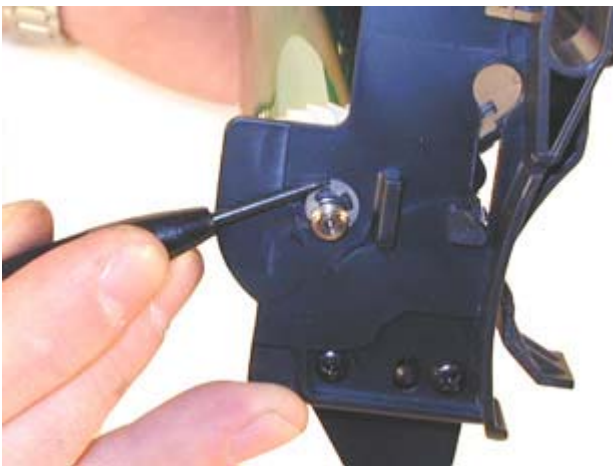

Figure 32
31) Install the E-Ring on the end of the axle. See Figure 32